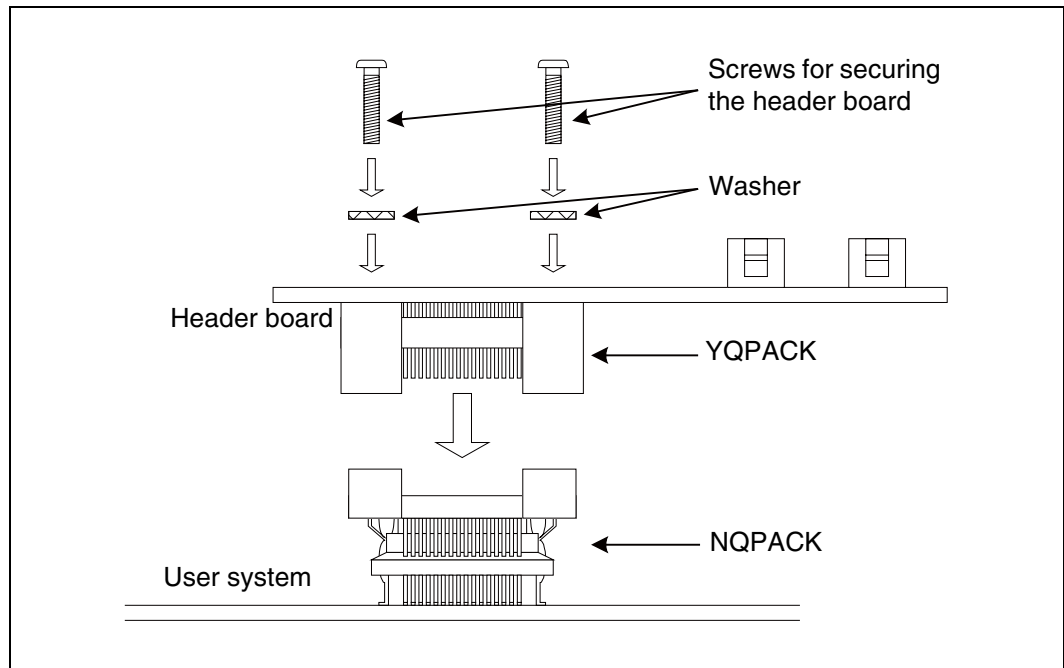

Figure 4 Header board connection
2. Insert each of the screws for securing the header board through a washer and into each of the four holes in the header board. To tighten the screws, use the special screwdriver supplied with the NQPACK to evenly tighten the diagonally opposite screws in turn (see Figure 4).